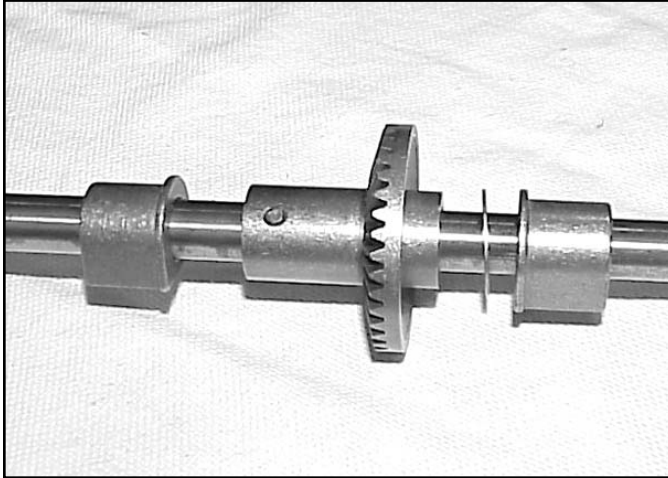

Fig 109
3. Install the transmission bearings with the flange facing the gear (Fig. 109).